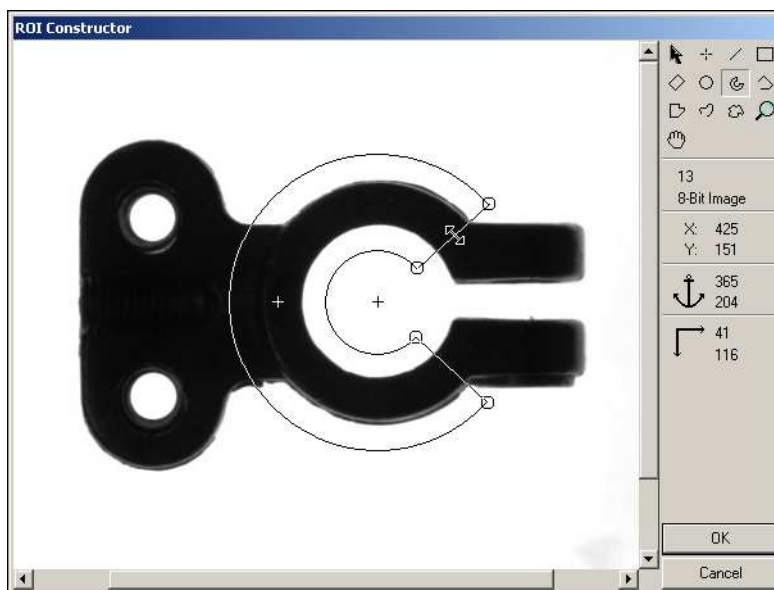

Figure 3-2. ROI Constructor
1. Use the IMAQ ConstructROI VI (**Vision Utilities»Region of Interest**) to display an image and the tools palette in an ROI constructor window, as shown in Figure 3-2.